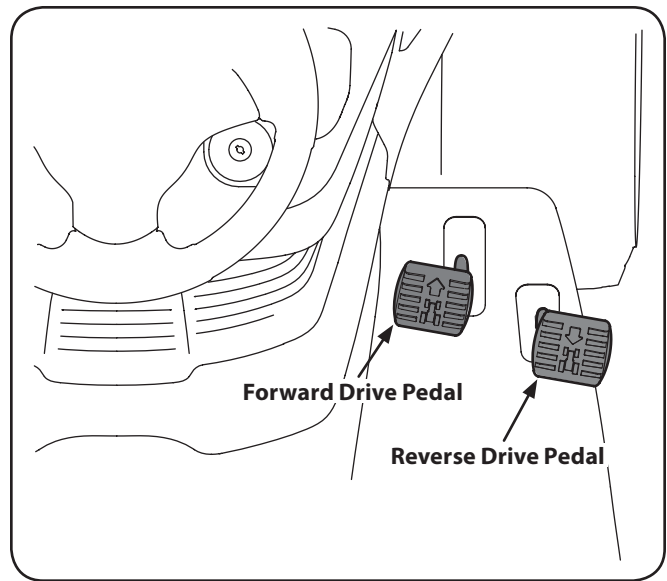

Figure 5-2
2. To travel FORWARD, slowly press the forward drive pedal forward until the desired speed is achieved. See Fig. 5-2.
3. To travel in REVERSE, check that the area behind is clear then slowly depress the reverse drive pedal until the desired speed is achieved. See Fig. 5-2.